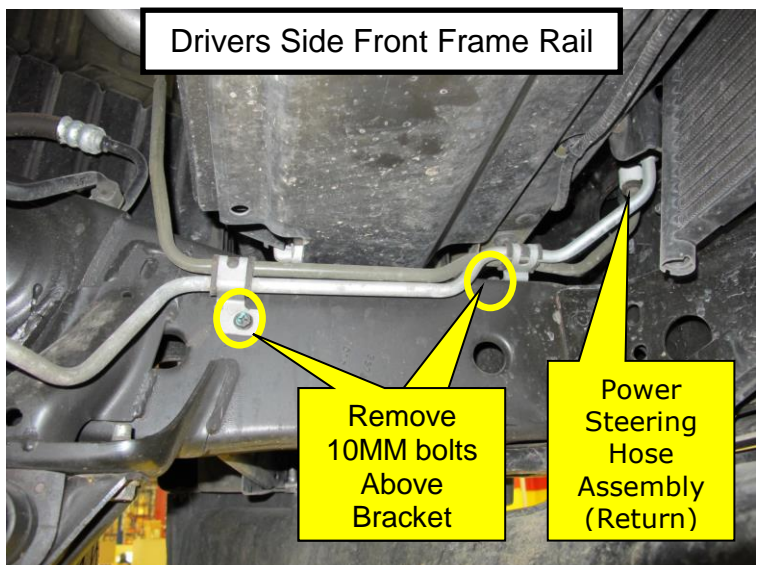

Figure 6
5. Remove Power Steering Hose Assembly (Return) bracket bolts (Figure 6).